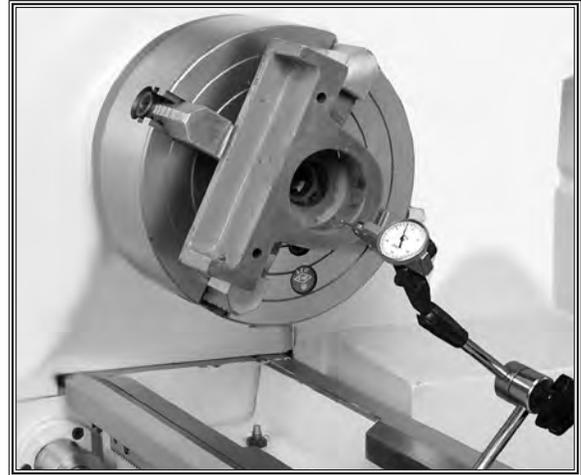

Figure 33. Centering workpiece.
8. Use a dial indicator to fine-tune your adjustments (see **Figure 33**), and use a lower RPM when machining heavy eccentric workpieces.